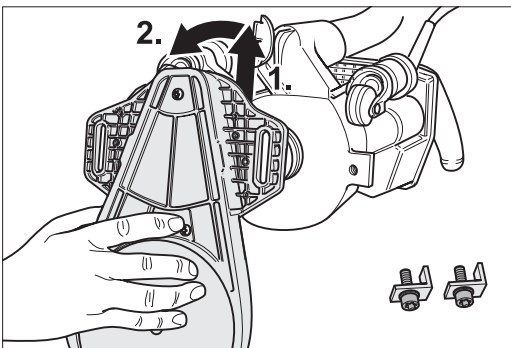

Fig. 32 Remove the attachment from the machine.
- 5 Remove the attachment from the machine and put away the attachment with the sanding disc facing upward (Fig. 32).